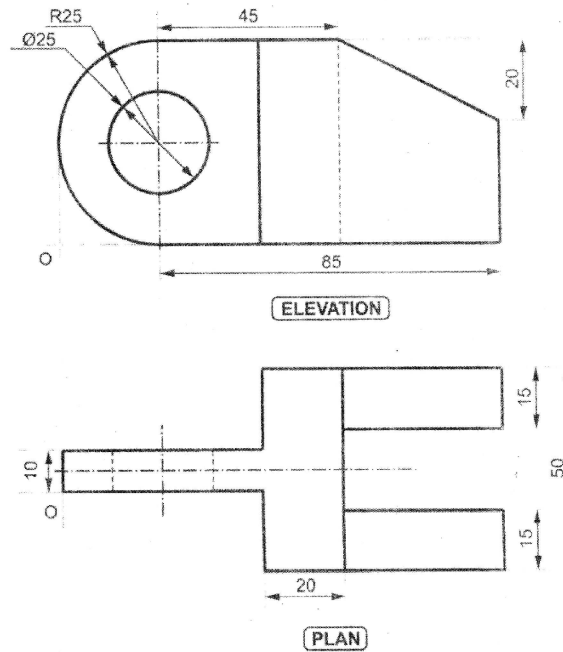

Fig. 6
8. Fig. 6 shows two views of an object. Draw its isometric view and show overall dimensions. [20]